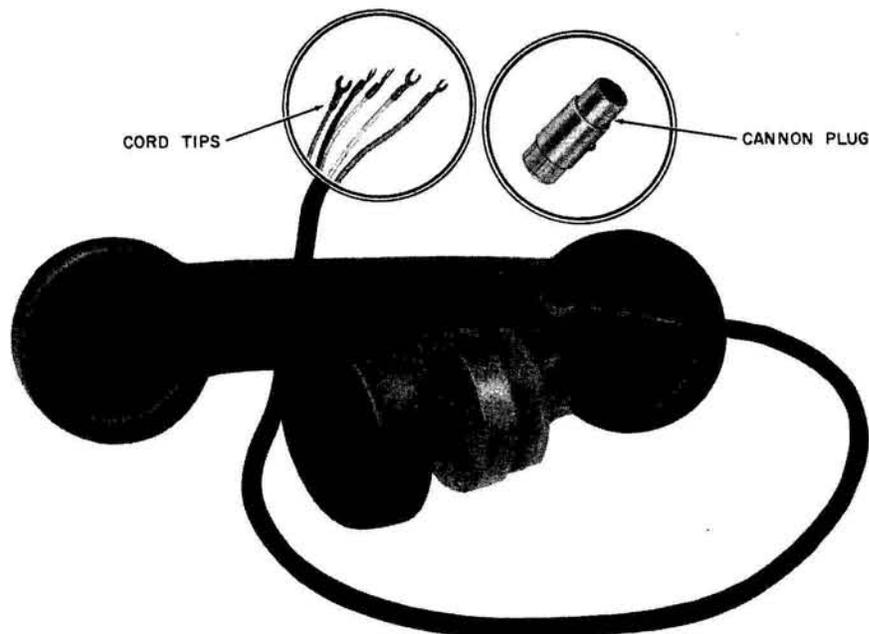

Fig. 1 — KS-16504 Handset
**2.01** The KS-16504 handset (Fig. 1) is a standard G3A-3 handset with the exception of the transmitter, transmitter cap, and cord. This handset utilizes a pressure transmitter and is coded KS-16504, List 10 transmitter unit. See Table A for other KS-type handsets.